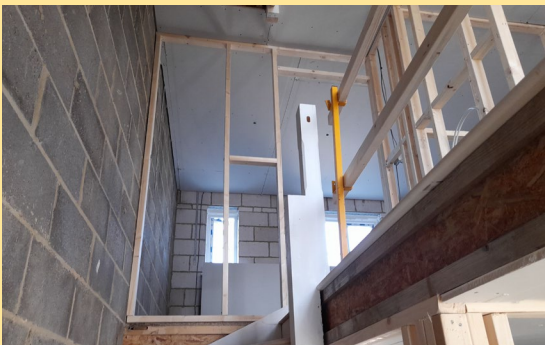

FIG 1
- Noggins must not be removed by boarders as shown in fig 1. The use of letterbox style hatches can be utilised for plots with kite winder style staircases to alleviate manual handling constraints.